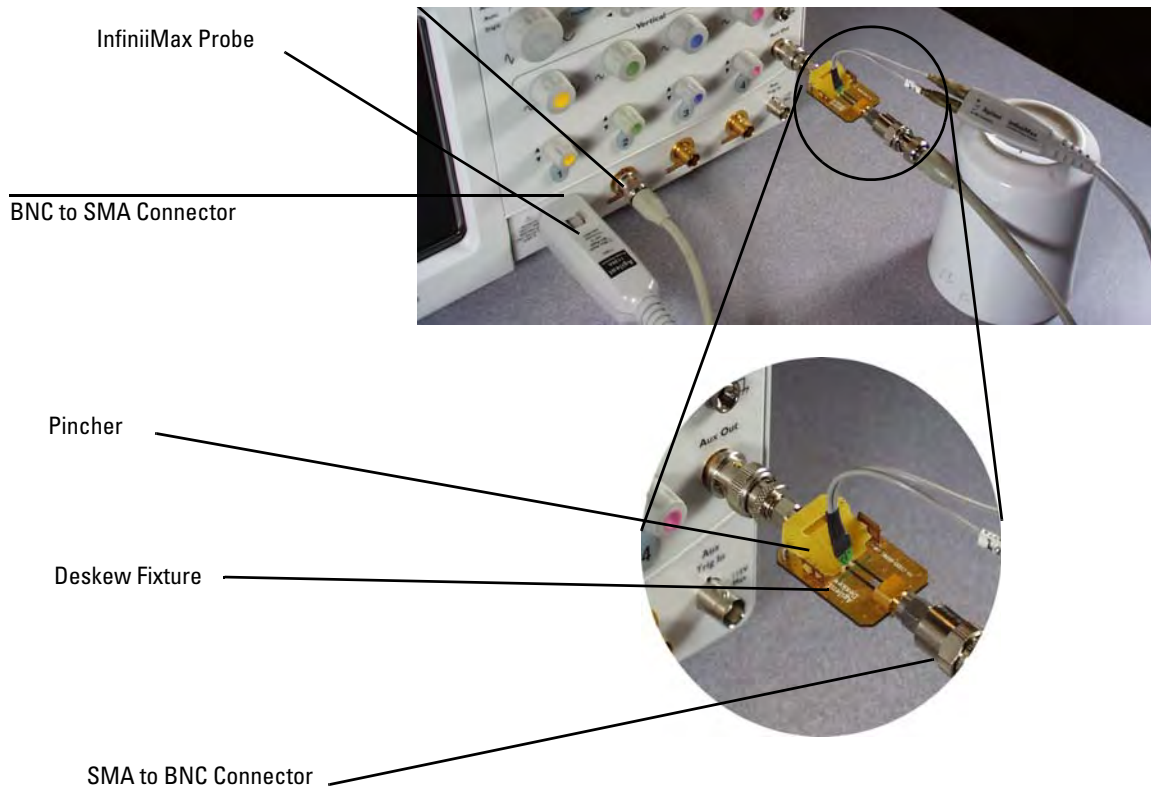

Figure 42 Connecting the Probe
- 1 As shown in Figure 42 on page 86, connect BNC (male) to SMA (male) adapter to the deskew fixture on the connector closest to the yellow pincher.